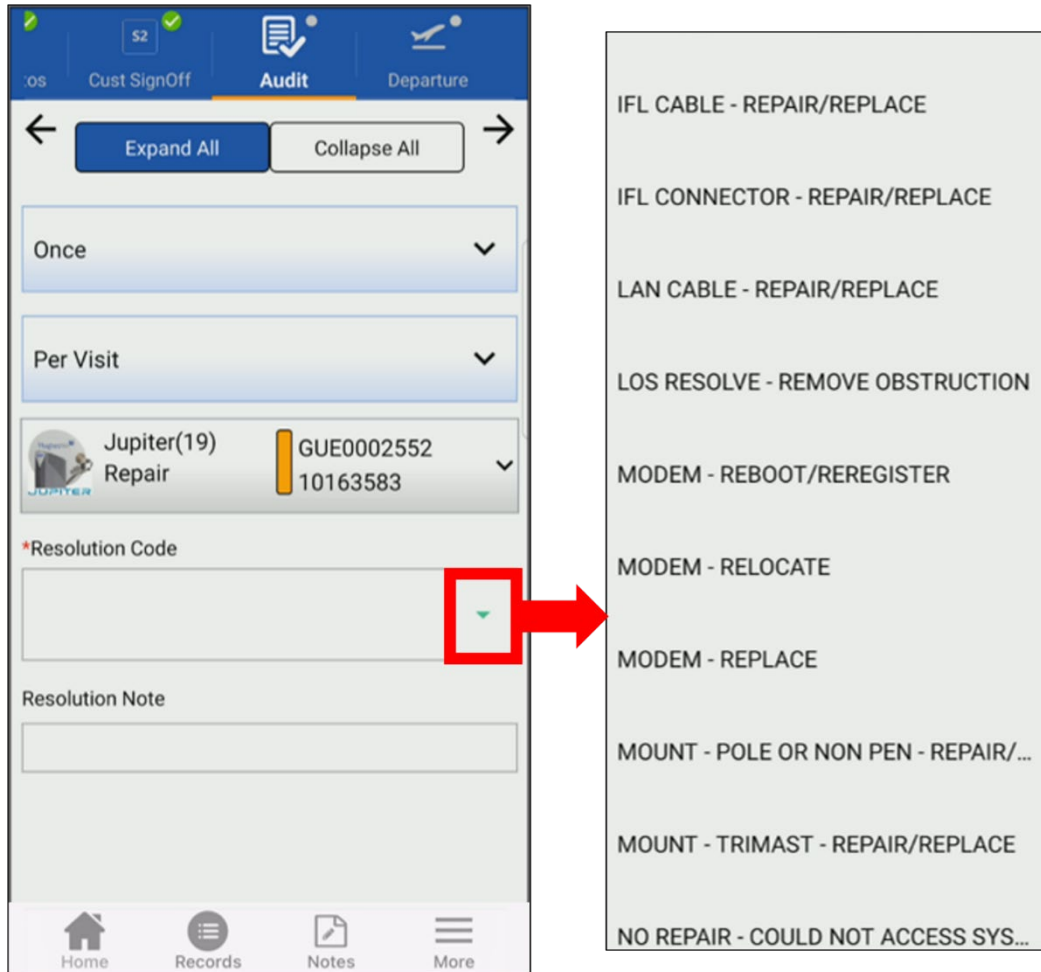

Figure 106: Selecting a resolution code
1. Tap the *Resolution Code* drop-down to launch a list of possible resolution types (Figure 106).